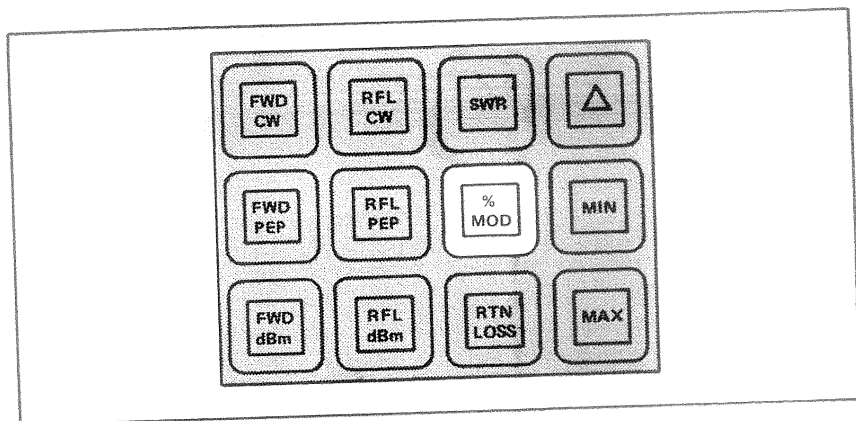

Figure 3-5. Amplitude Modulation (%).
e. **Measuring Amplitude Modulation.** (Figure 3-5.) Only a forward element is required for this mode. The element should be pointed in the direction of forward power and the **% MOD** key pressed. Modulation is displayed directly in percent, provided the average signal is above 10% and the **PEP** of the signal is below 400% of the element's nominal full scale. For specified measurement accuracy, the average **CW** power levels must be greater than one third of full scale. Modulation is calculated as follows: